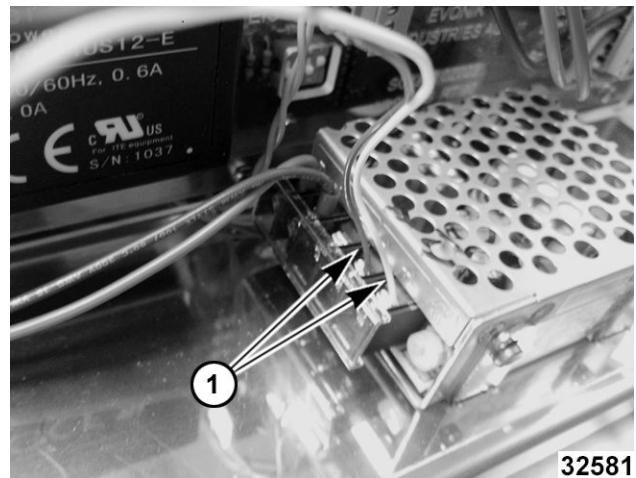

Fig. 46
7. Note and disconnect LED wiring (1, Fig. 46) and remove from lighting transformer.